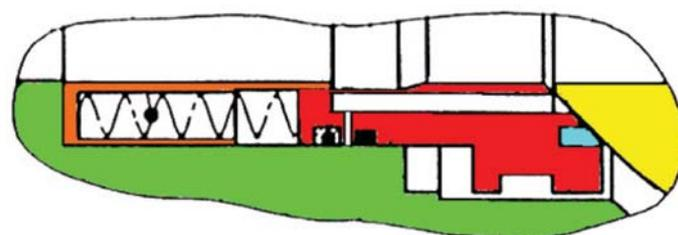

Figure 24.
4. The seats were of the type SR with soft seals, Figure 24.